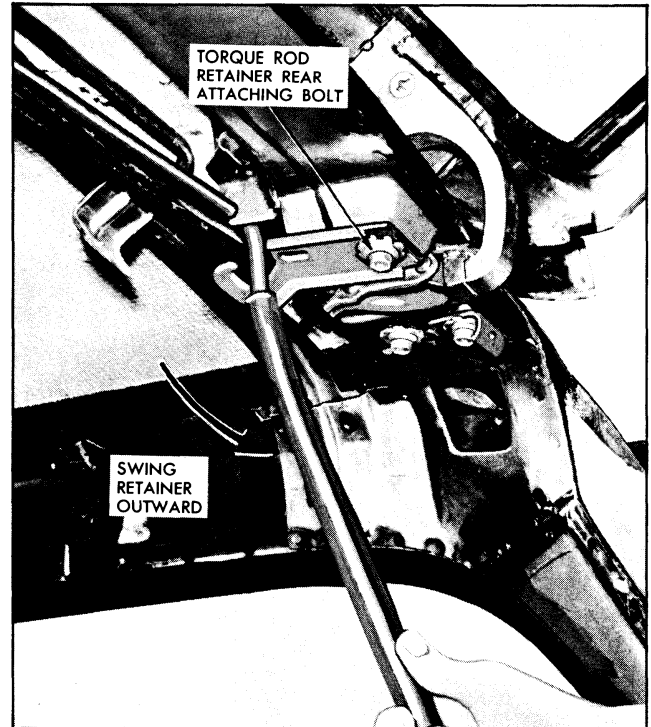

Fig. 15-13 Back Door Hinge and Torque Rod Removal
4. Using a suitable length of pipe over end of torque rod, release tension of torque rod from retainer. While tension of torque rod is released from retainer, remove retainer front attaching bolt and loosen (no more than 2 turns) retainer rear attaching bolt; then, swing front end of retainer towards outside of body and release torque rod (Fig. 15-13).